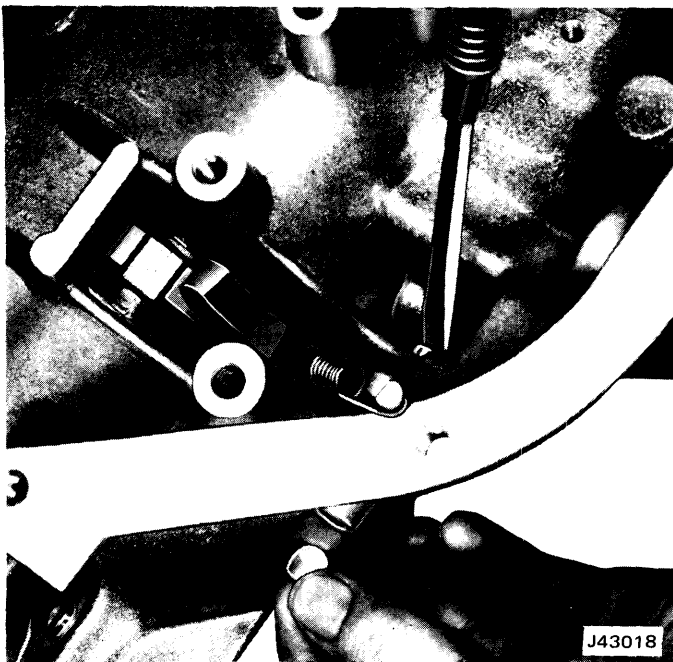

Fig. 7-28 Removing Parking Pawl Shaft Cup Plug
- (8) Remove parking pawl shaft cup plug. Insert screwdriver between parking pawl shaft and case rib and pry outward on shaft to remove plug (fig. 7-28).